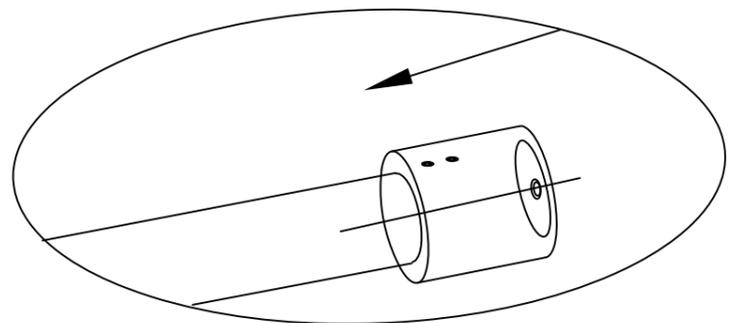

Fig. 6
- Slide the Rail End Assembly (5) (6) on to end of Top Rail (2) to be connected shower wall. Loosely tighten the Rail End Assembly (5) into place on Top Rail (2) making sure the rail end assembly is fully engaged on top rail. Repeat for the other side. See Fig.6 for details.